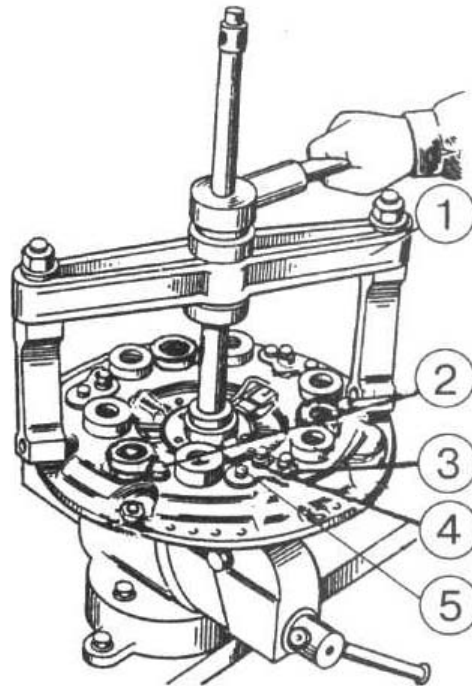

Figure 4.15
g) install squeezing device 1 on disks as an assembly (Figure 4.15);
- h) unscrew technological bolts 2 (Figure 4.15) (M12x40);